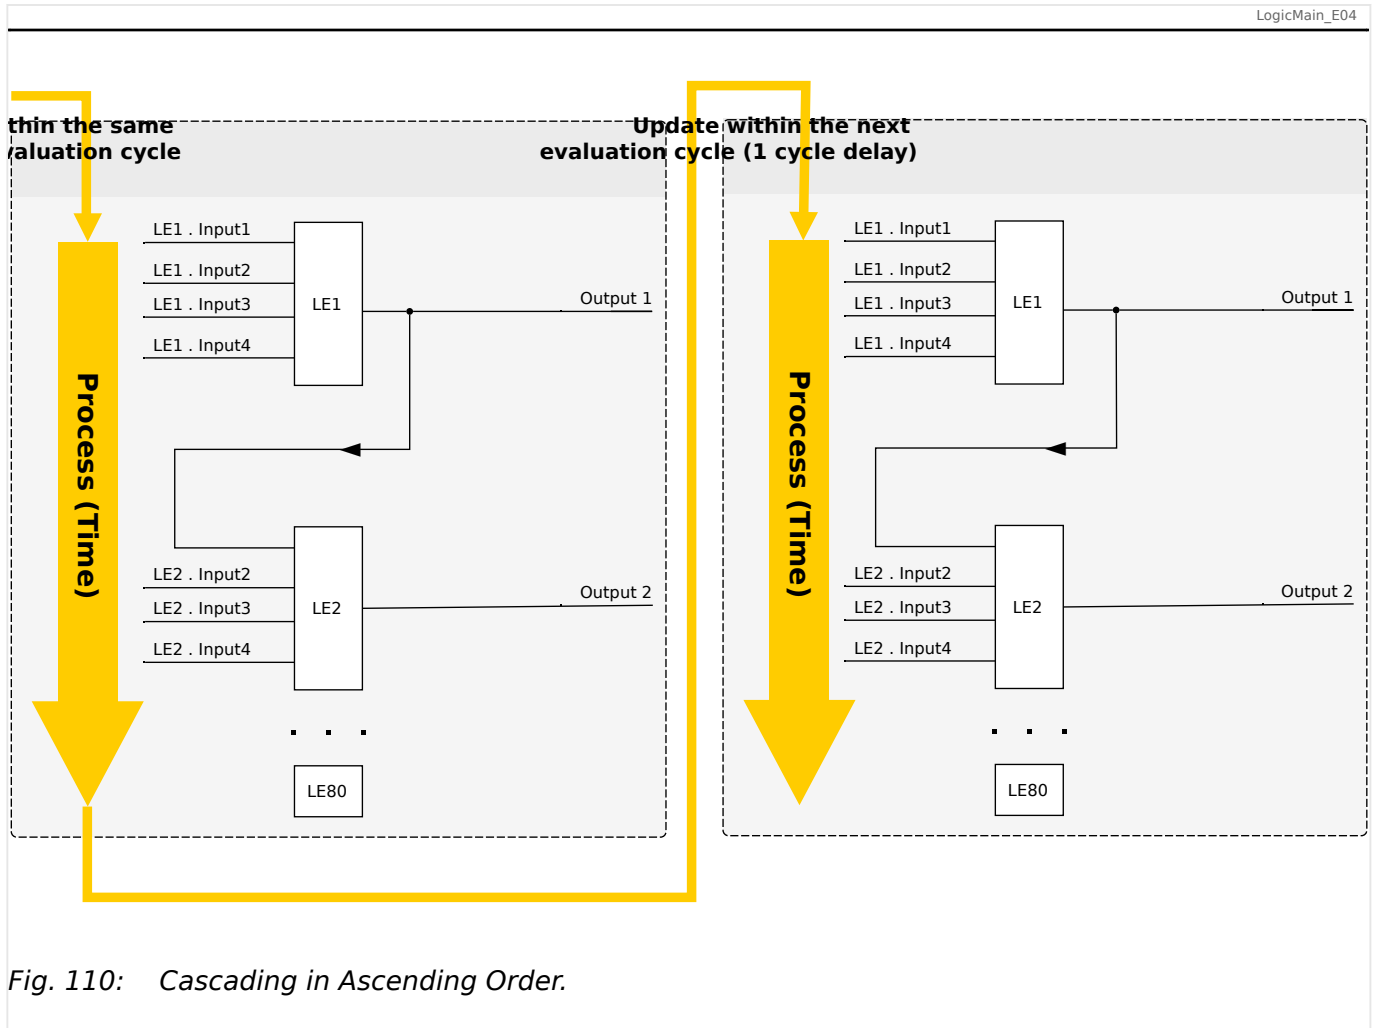
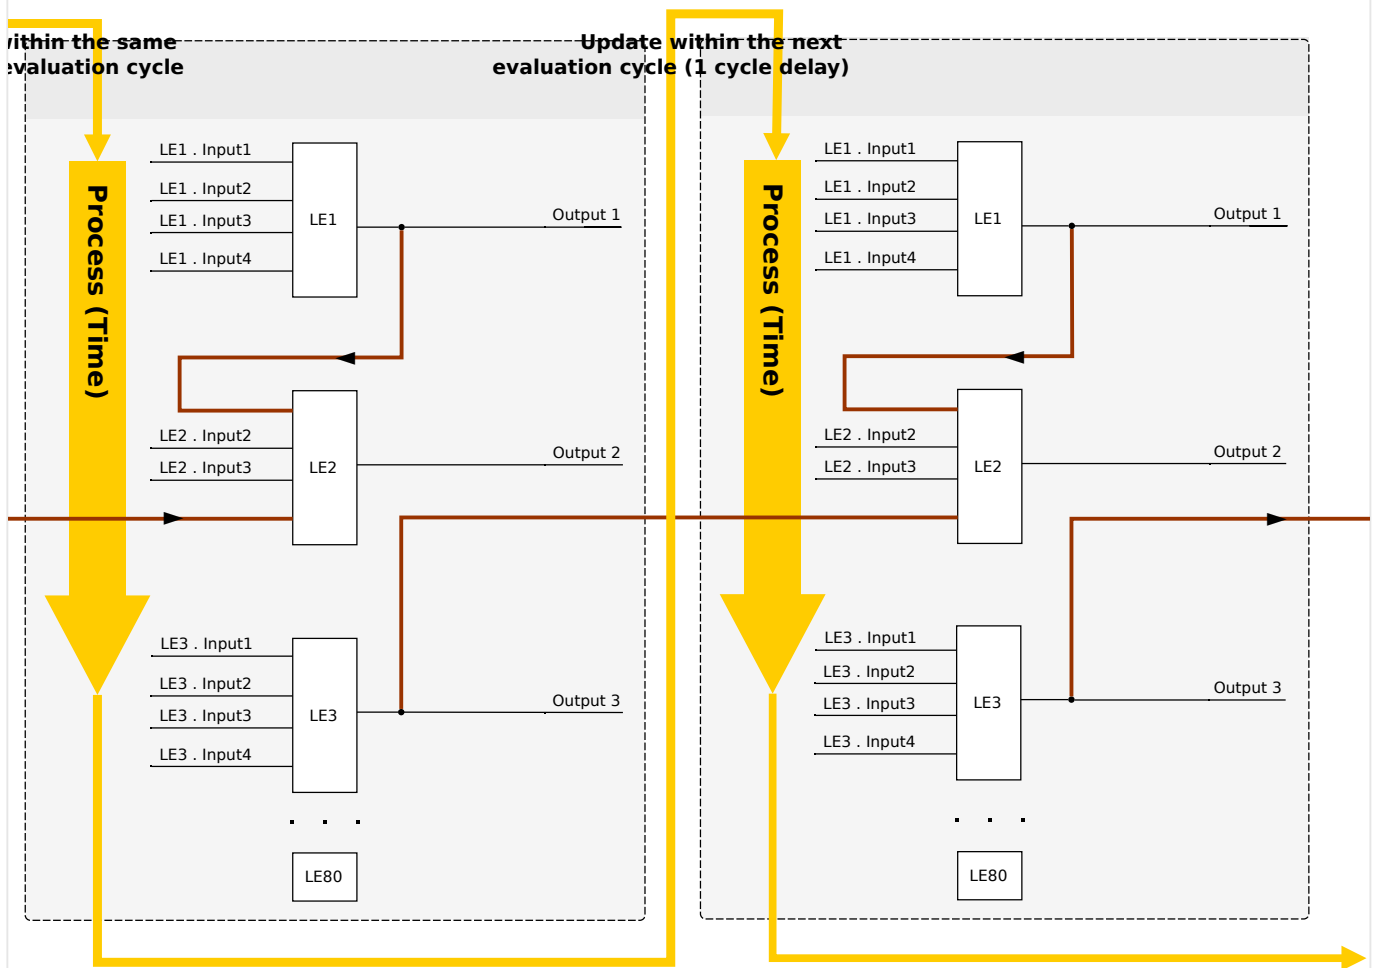

Fig. 110: Cascading in Ascending Order.
Fig. 111: Cascading in Descending Order.
- **Ascending** sequence means that some output is fed into the input of a logic equation with **higher** number. For instance, diagram ↪Fig. 110 below shows an example where the result of Logic Equation LE1 is used as an input of Logic Equation LE2.
- **Descending** sequence means that some output is fed into the input of a logic equation with **lower** number. For instance, diagram ↪Fig. 111 shows an example where the result of Logic Equation LE3 is used as an input of Logic Equation LE2.
Both ascending and descending sequences may be used and combined one with the other, with no immediate difference. However, due to the evaluation of all equations in ascending order the actual run-time values that are fed in at the input of an equation will have a different “age”, as is shown in ↪Fig. 110 and ↪Fig. 111 below.
In the example shown in Fig. 111 above, “Logic Equation 2” uses the output states of two other equations, “Logic Equation 1” and “Logic Equation 3”. The result of “Logic Equation 1” is used in ascending order and has therefore been evaluated within the same process cycle. The result of “Logic Equation 3” is used in descending order and has therefore been evaluated in the previous process cycle.